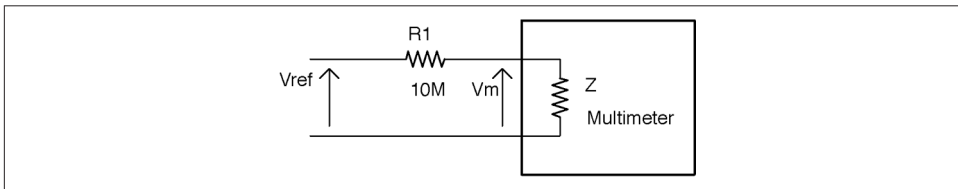

Figure 21-7. Finding the Input Impedance of Your Multimeter
You can determine the input impedance of your multimeter using the schematic in Figure 21-7.
To determine the input impedance of your multimeter (Z in Figure 21-7):
2. Now place a resistor in series with the positive multimeter leads as shown in Figure 21-7 and see what voltage the meter reads now (V_m). If there is little or no change in the reading, then try a higher-value resistor (say $100\text{M}\Omega$) and congratulations you have a high-quality multimeter.
3. Calculate the impedance of the meter (Z) using the formula: